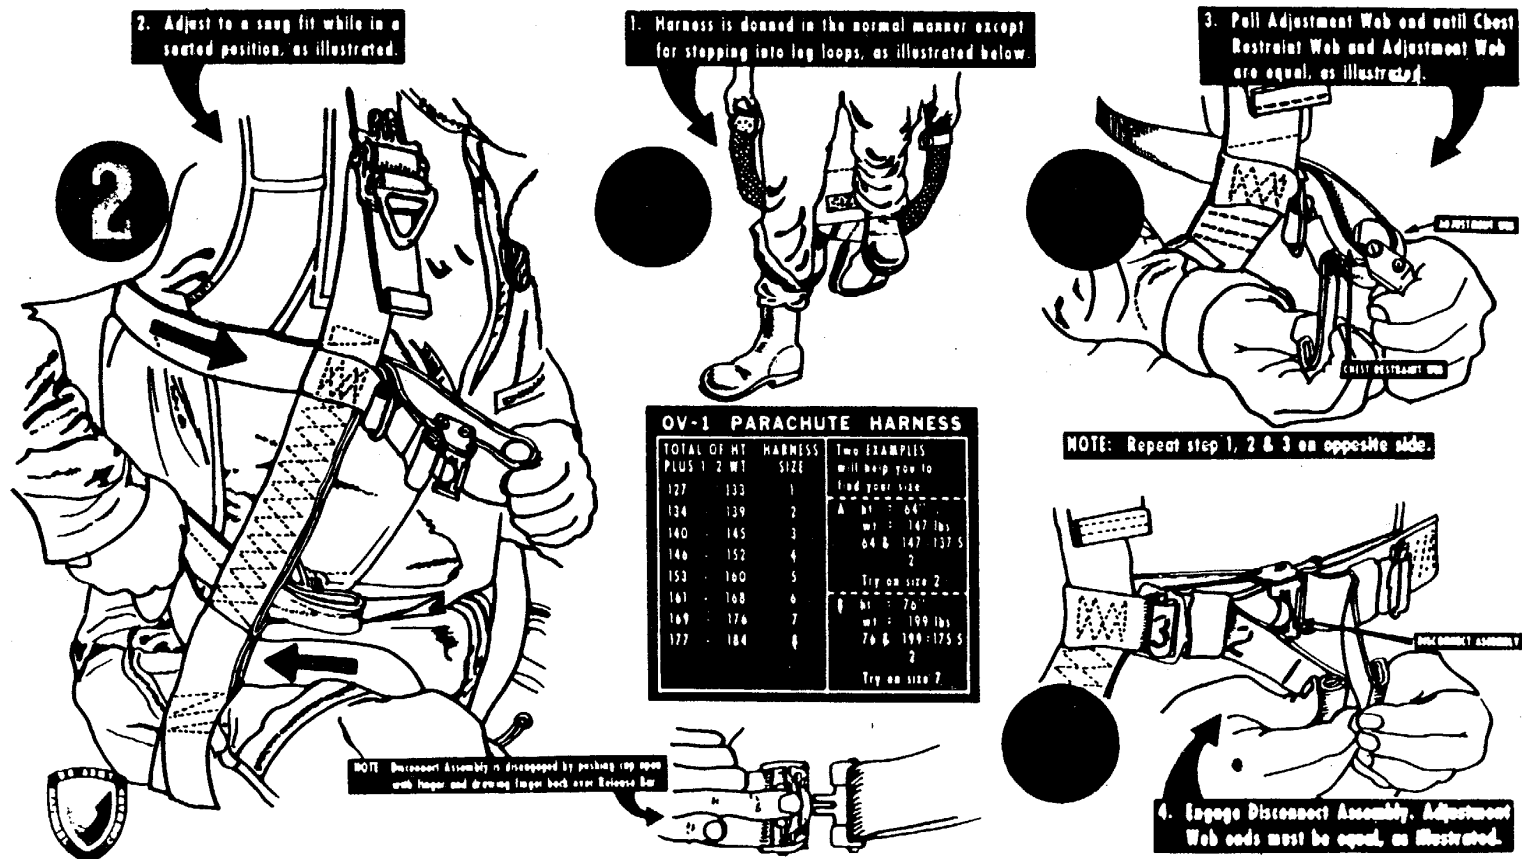

Figure 2-5. OV-i Parachute and Ejection Seat Restraint Harness.
b. Once the proper size harness has been determined, it must be adjusted to fit properly. The harness is donned in the normal manner except for stepping into the leg loops (fig. 2-5). NOTE: The chest strap disconnect assembly is disengaged by pushing cup open with finger and drawing finger back over release bar (fig. 2-5).
c. Adjust the harness to a snug fit while in a seating position (fig. 2-5). Remove all slack in the leg loops as shown in #2 of figure 2-5. Pull adjustment web end #3 of figure 2-5 until chest restraint web and adjustment webs are equal #4. Engage the chest strap disconnect assembly. Adjustment web ends must be equal. (See #4 of fig. 2-5.)